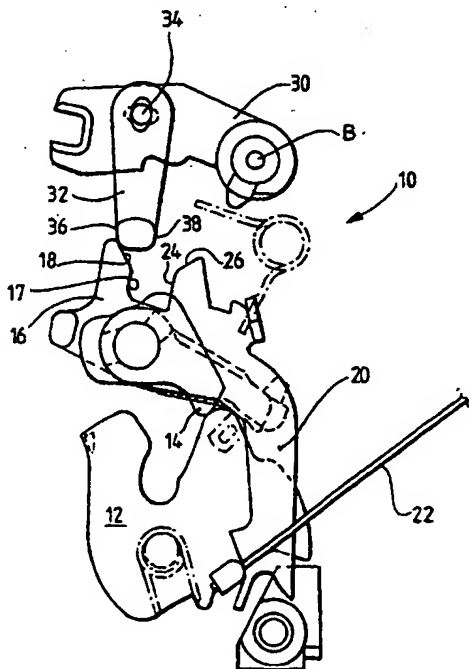
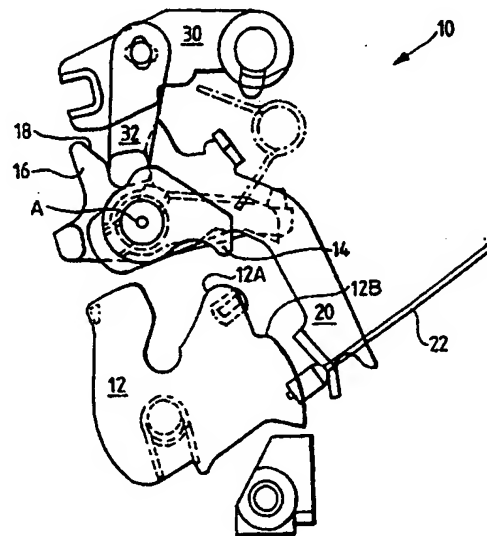
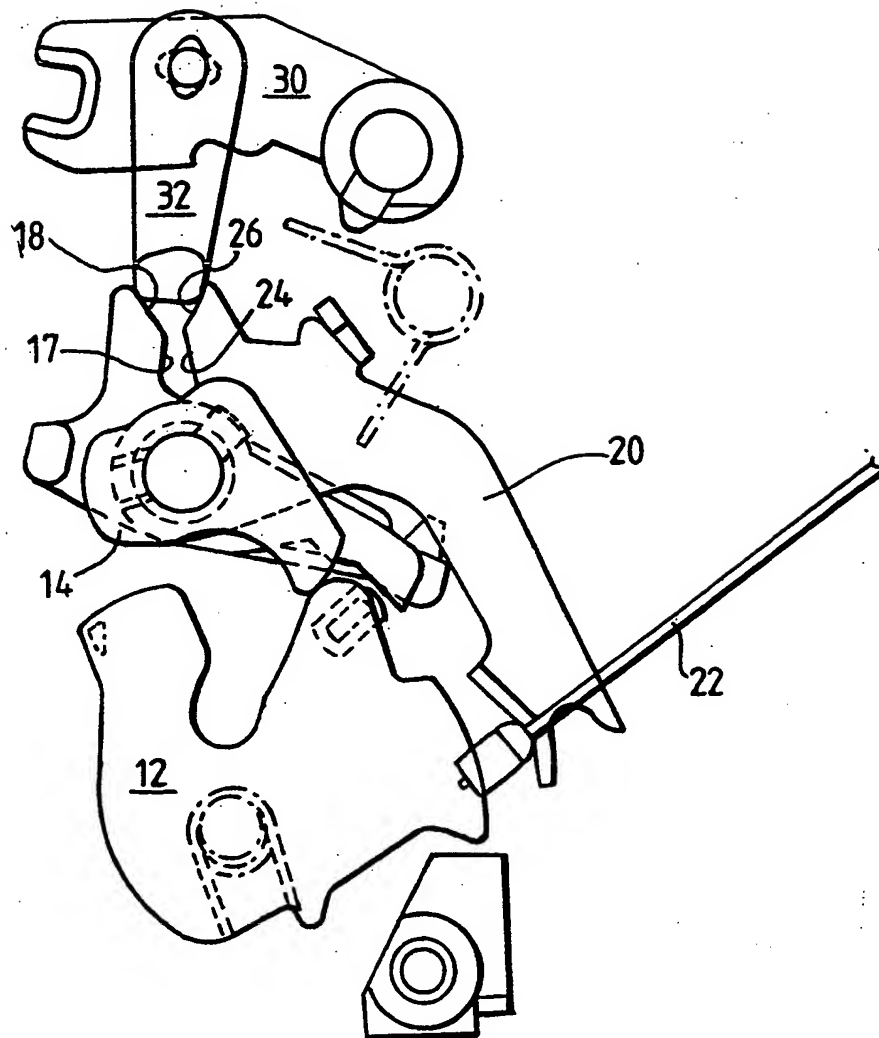

FIG.1.
FIG.3.
FIG. 2.
(57) The latch 10 includes a latch claw 12, a release lever 20 operable between a closed and released position, a pawl 14 connected to a pawl lifter 16 operable between a closed position and a released position, and a lock link 32 operable between a locked and an unlocked position. During unlocking, a lock lever 30 rotates anti-clockwise to move abutments 36,38 (Fig.1) of the lock link to a position between abutments 17,24 (Fig.1) of the pawl lifter and release lever respectively (Fig.2). Operation of an outside door handle (not shown), connected to the release lever via a cable 22, causes the release lever to rotate about axis A (Fig.3) such that abutments 24,36 push on abutments 38,17 respectively. This action causes anti-clockwise rotation of the pawl lifter and disengagement of the pawl from abutment 12A (Fig. 3) of the latch claw to allow the door to open. The lock lever and link may be electrically actuated.